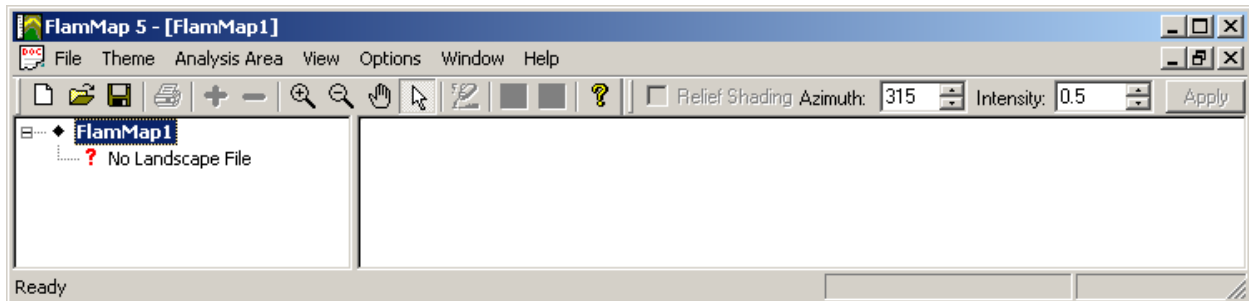

Figure 4-9—New FlamMap run window.
- 1) Open FlamMap5 (**ArcFuels10 toolbar→Wildfire Models→FlamMap**, fig. 4-9).